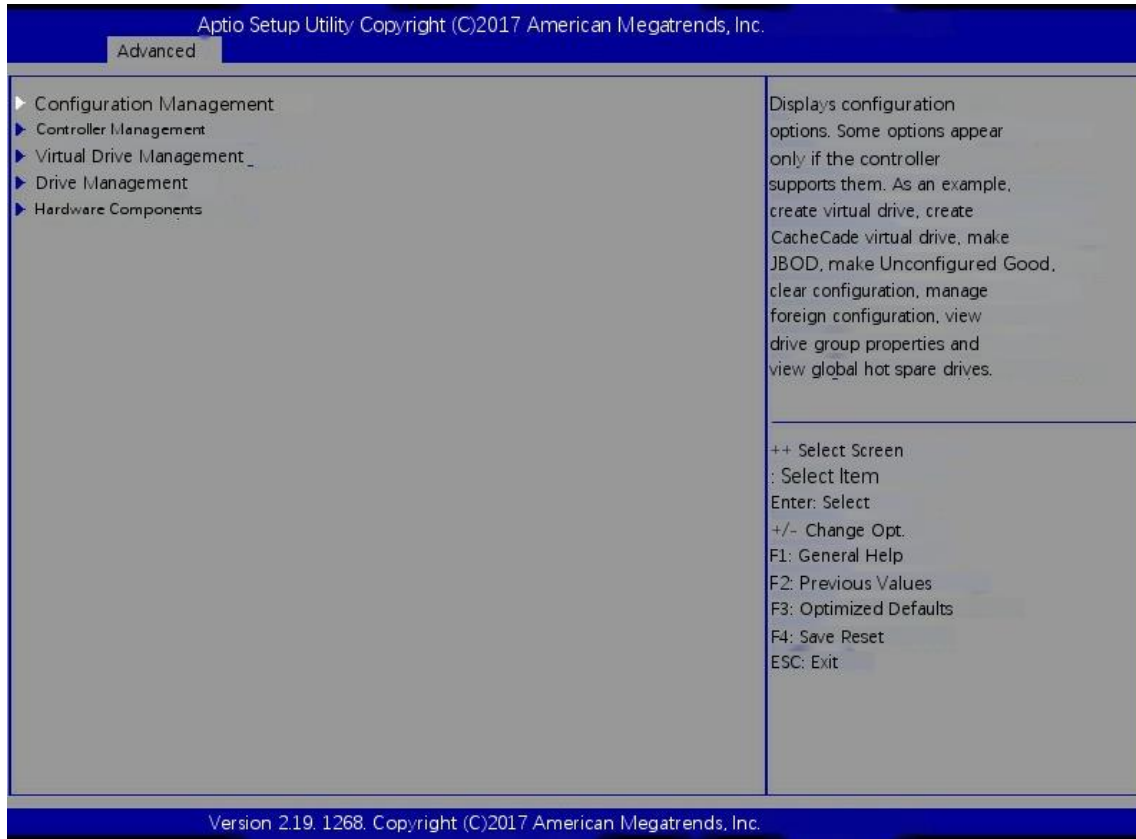

Figure 6-78
- b) Select Configuration Management in the RAID card configuration interface as shown in figure 6-78, and press Enter.